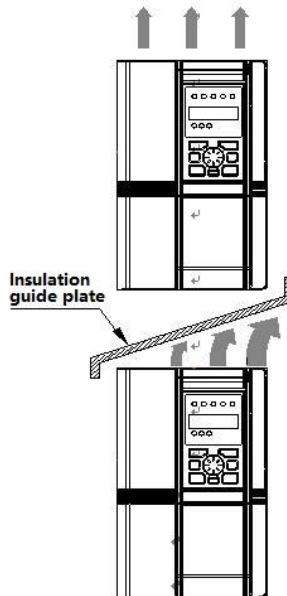

Fig.3-3 Up and down row installation
If one row of inverters need to be installed above another row, please install insulation guide plate to prevent the heat from the lower row inverters which will cause the temperature of the upper row inverters to raise, even over-heat and overload fault occurs. Measures as shown in Fig.3-3:
- Please mount the frequency inverter vertically to facilitate the upward emission of heat. If there are multiple frequency inverters in the cabinet, please install them side by side. Please refer to **Fig.3-3** and install a heat insulation flow guide plate in the case where the upper and lower mounting is required.